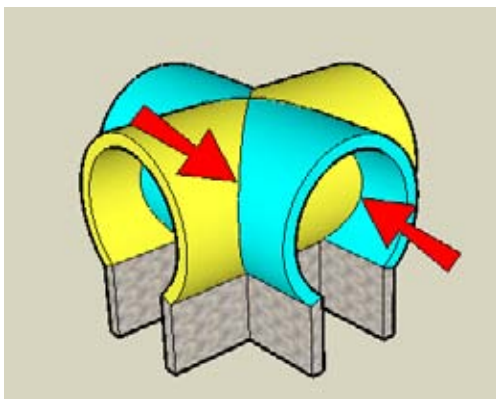

Figure 3-12
2. Select everything, right-click on any selected object, and choose Intersect→Intersect with Model from the pop-up menu. Intersection edges are created on the inside and outside faces of both arches (Figure 3-12).